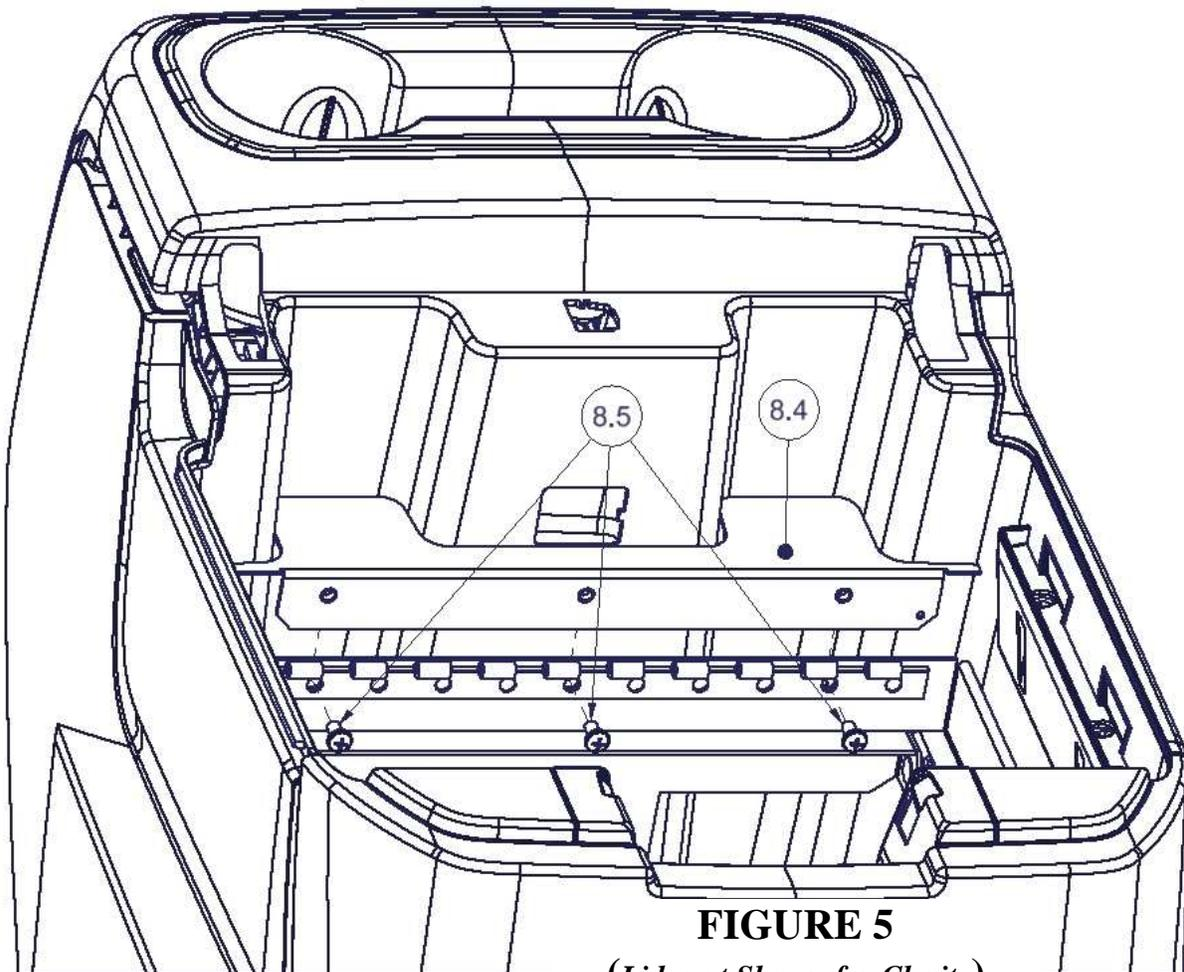

FIGURE 5
10. Lower the #8.4 Fill Plate into place at the rear of the Console Insert (between the Console Insert and the plastic body of the Factory Console), and secure in place using (3) #8.5 Screws. Start the screws by hand to insure they do not become cross-threaded. **See Figure 5.**